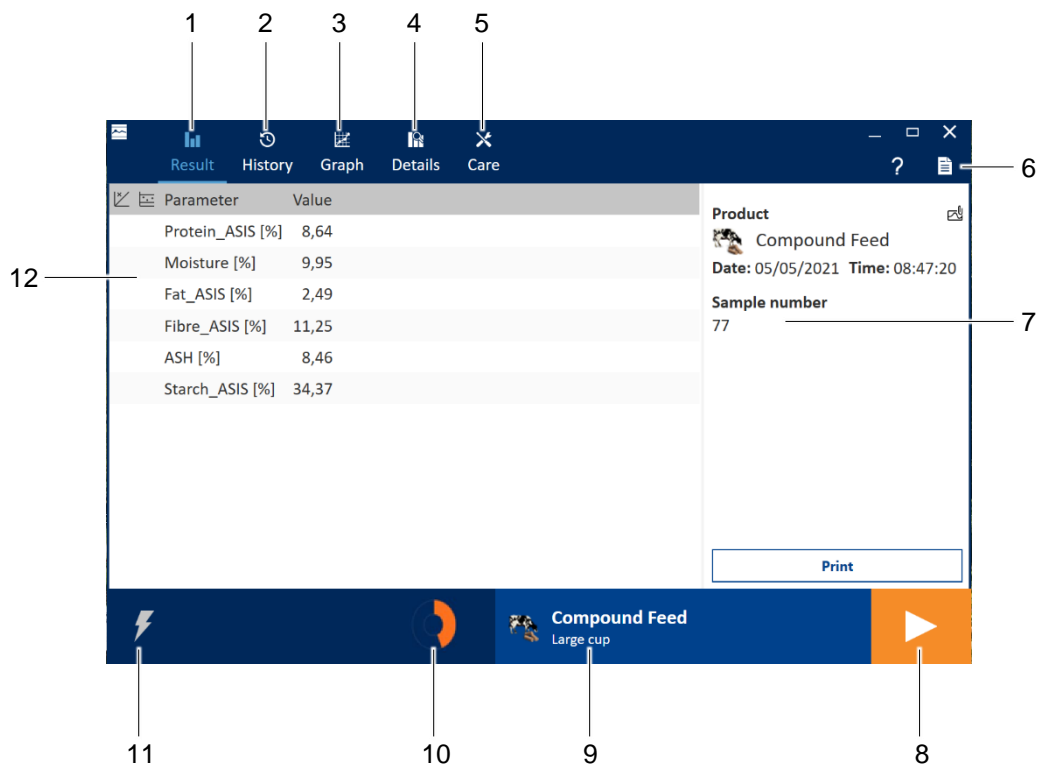

Fig. 12 Start-up screen
At start-up of the instrument you will see the screen shown in Fig. 12.
The **Reports** function (pos. 6 in Fig. 12) enables printing and export of results according to predefined templates.